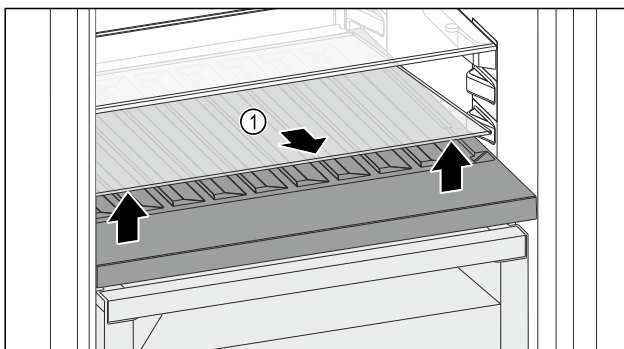

Fig. 209
- ▶ Lift the glass shelf Fig. 209 (1) at the front and remove.
- ▶ Store the glass shelf Fig. 209 (1) in a safe place outside the appliance.
- ▶ Insert the glass shelf (2) under the variable bottle rack.